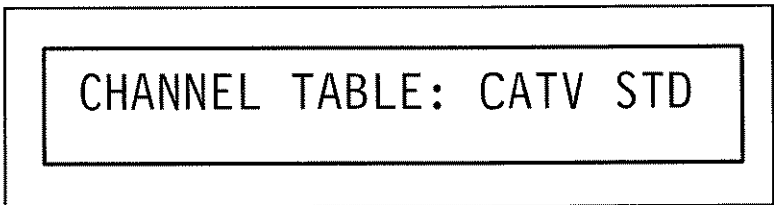

Figure 2-4: The TDC5 Display After Selecting TUNING
2. Press the enter key. The word CHANNEL TABLE will flash, and the display will be similar to Figure 2-4.
5. Press the enter key. The word CHANNEL TABLE will flash, and the display will be similar to Figure 2-4.